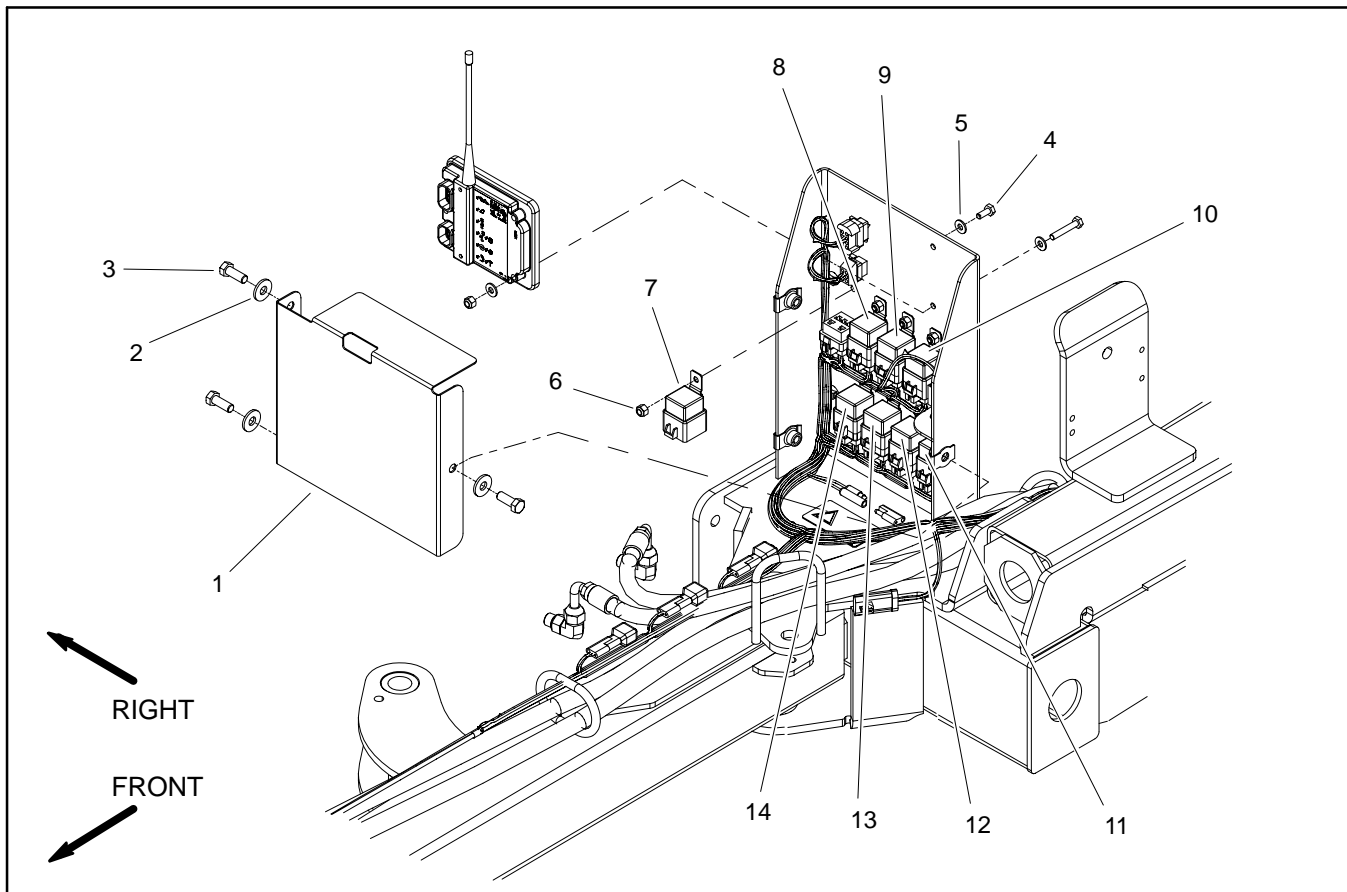

Figure 8
The electrical system of the Pro Sweep includes eight (8) relays used to control sweeper operation. These relays are identical and are attached to the frame in front of the RH wheel (Fig. 8). Relays can be identified by a tag on the wire harness. Refer to circuit drawings in Chapter 6 - Electrical Diagrams for additional relay information.
2. Remove cover from frame to access relays (Fig. 8).